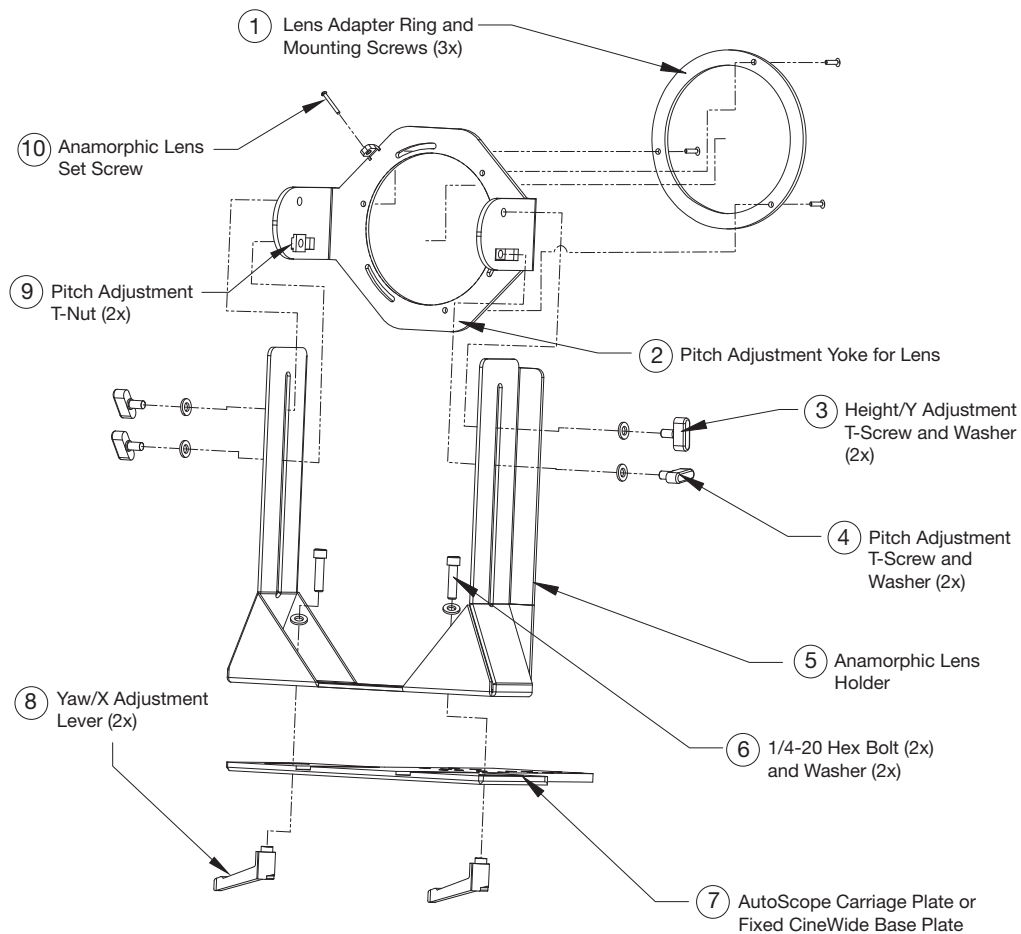

Figure 3-18. VX-22i Anamorphic Lens Mounting Assembly - Exploded View
The VX-22i Anamorphic lens mount kit consists of everything shown in Figure 3-18. Some components shipped with your projector may differ slightly from what is shown in these instructions. If any items are missing or damaged, please contact your Runco dealer or Runco Customer Service at (800) 23RUNCO.